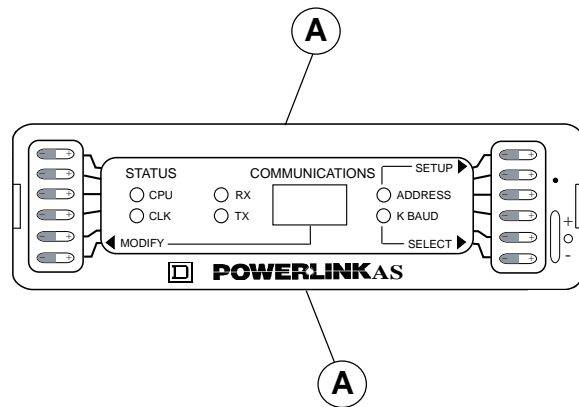

Figure 2
Grasp control module (figure 2) by edges (A). Lift up until module comes free.